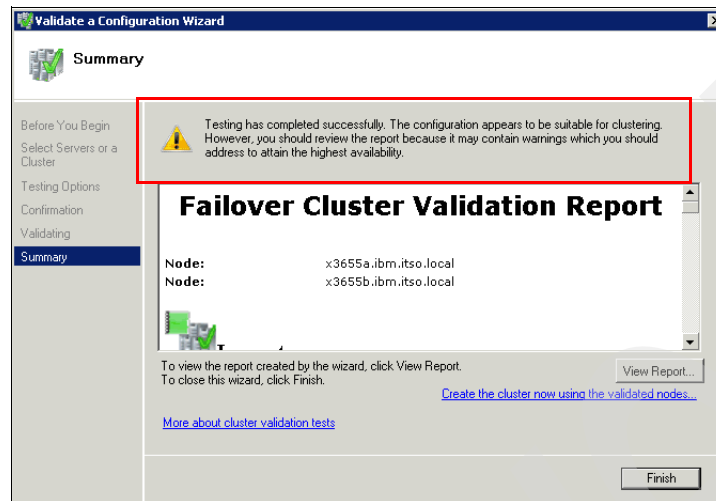

Figure 5-88 Validation summary page
4. The Summary page (Figure 5-88) is displayed after the test finished. For troubleshooting, you can view the results by clicking **View Report** and reading the test results. In our example we just have a few warnings that are not critical for our cluster.